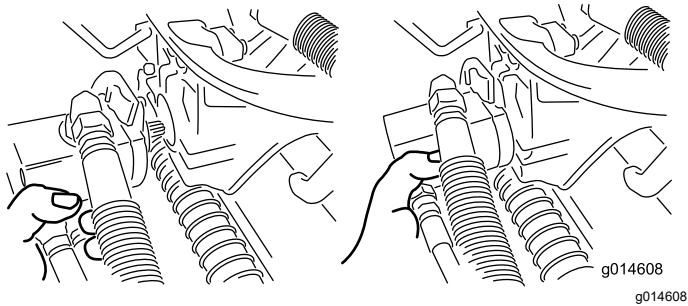

Figure 55
3. Move the motor to the storage location on the front of the suspension arm (Figure 55).